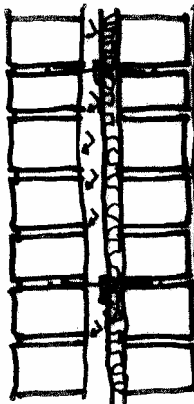

Figure 10.11 – Avoid cement on shiny surface
- ❖ **Avoid soiling the shiny surface with cement or lime material.** *Fig10.11*